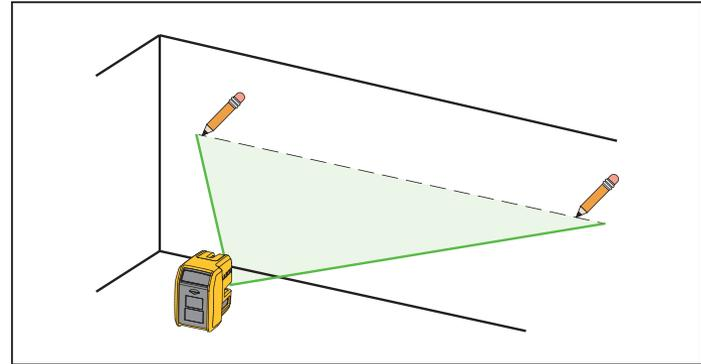

Figure 2. New Horizontal or Diagonal Mark
2. Turn the Product around on its center until the horizontal laser points to the target area. See Figure 2.